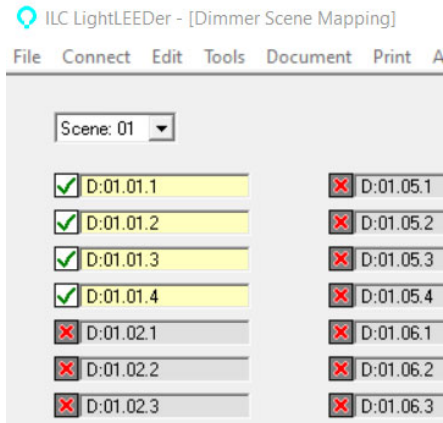

Figure 2 - Dimmer Scene Mapping
1. Map the scenes to the dimmer outputs to be controlled using “Dimmer Scene Mapping” under “Dimmer Outputs”. Refer to Figure 2.